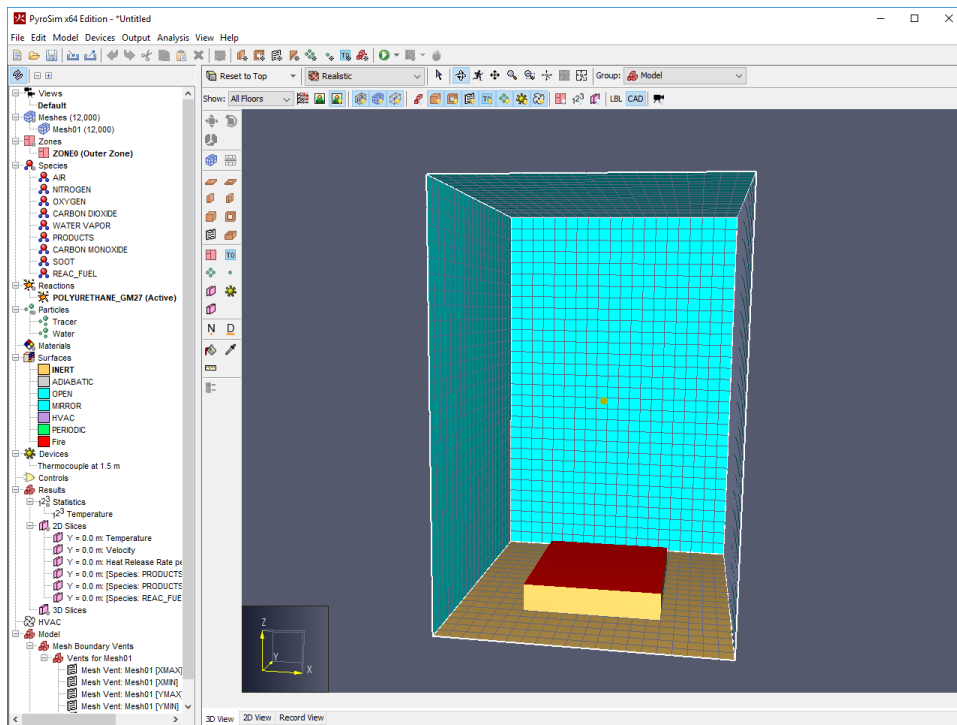

Figure 6. The Burner Fire model
- Press the **left mouse button** in the **3D View** and drag to rotate the model. In Figure 6, the burner is shown in red and the thermocouple as a yellow dot. The open vents are blue.